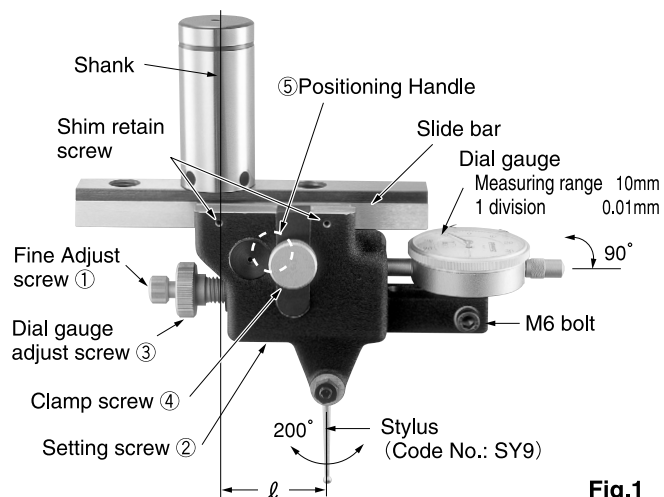

Fig.1
- Fit the attached dial gauge with M6 screw as per the illustration Fig 1.
1. Turn the fine adjust screw ① in a CW direction till it stops.
2. Loosen the setting screw ② with attached Hexagon wrench.
3. Turn the dial gauge adjust screw ③ in a CCW direction and set the sub-indicator to "0".
4. Tighten the setting screw ② to fix the dial adjust screw ③.
5. Turn the fine adjust screw ① CCW to set the sub-indicator to "5".
- ※In order to extend the measuring range, it can be adjusted to MAX. 10mm with the fine adjust screw ①.